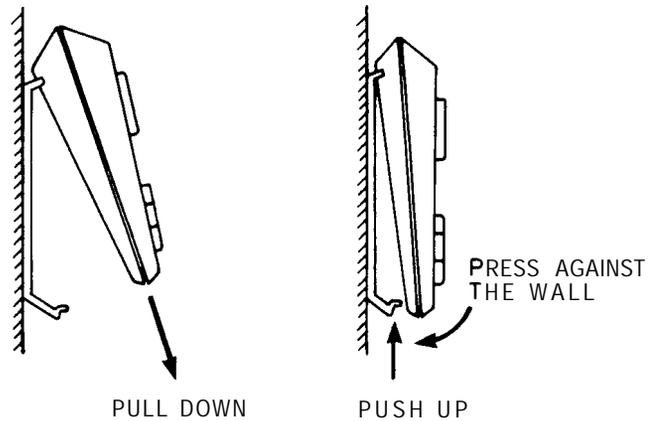

FIGURE 39 WALL MOUNTING BRACKET INSTALLATION
- Insert the hanger into the square hole (Point A in figure 39). This hole is located in the recess on the top moulding used for the receiver of the handset. Fasten the metal retainer from inside the housing using the screw provided (Point B in Figure 39). After fixing the handset hanger to the top moulding, reassemble the top moulding and the base moulding, tighten the screws and replace the front plate.
- Now clip the station on to the wall-mounting bracket as shown in figure 39. This is done by fixing the upper portion of the bracket into the two square holes located in the base plate of the station. Then, push the station base towards the bracket until it clips into the lower portion of the bracket.